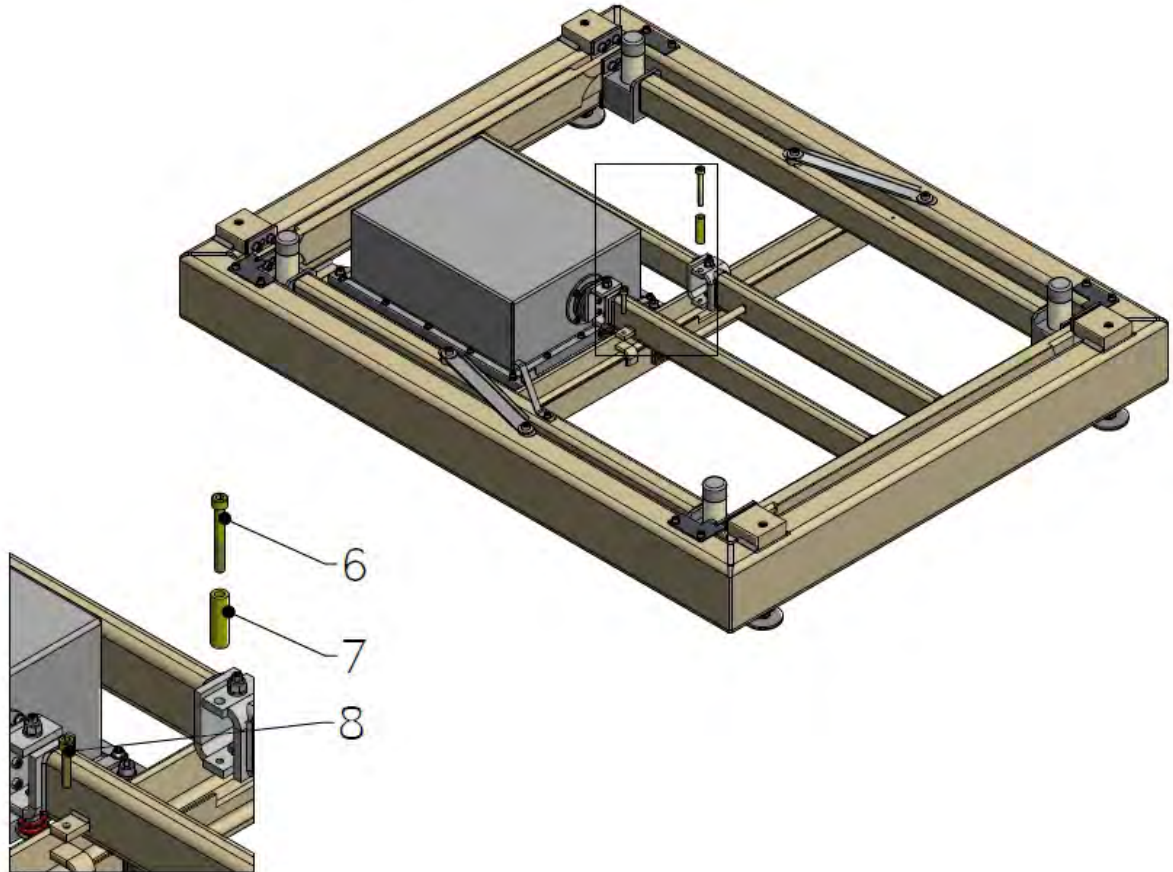

Fig.4
4. Keeping prescriptive order, unblock mass comparator by unscrewing bolts (6) and (8) and remove case (7). (Fig.4)